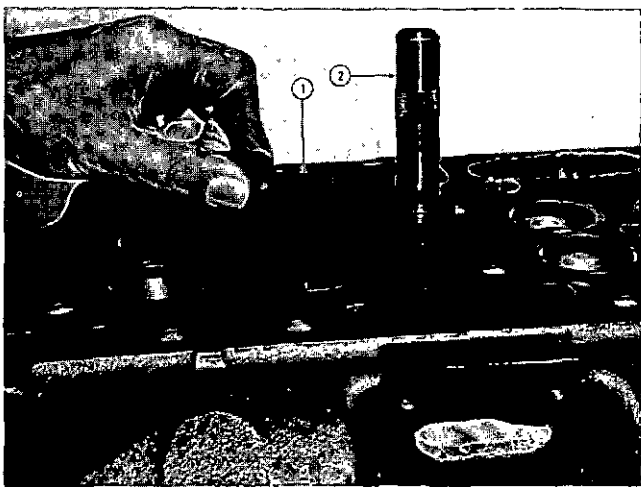

Fig. 2-1-9, V40218. Insert hold down knob
2. Position tool (1, Fig. 2-1-9) on head with reamer guide hole over water hole to be repaired.